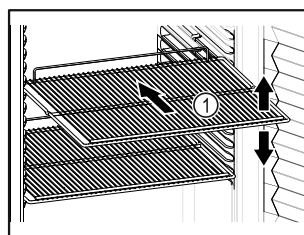

Fig. 18 Example illustration
- ☐ If there are adjustable shelves Fig. 18 (1), position them as required.